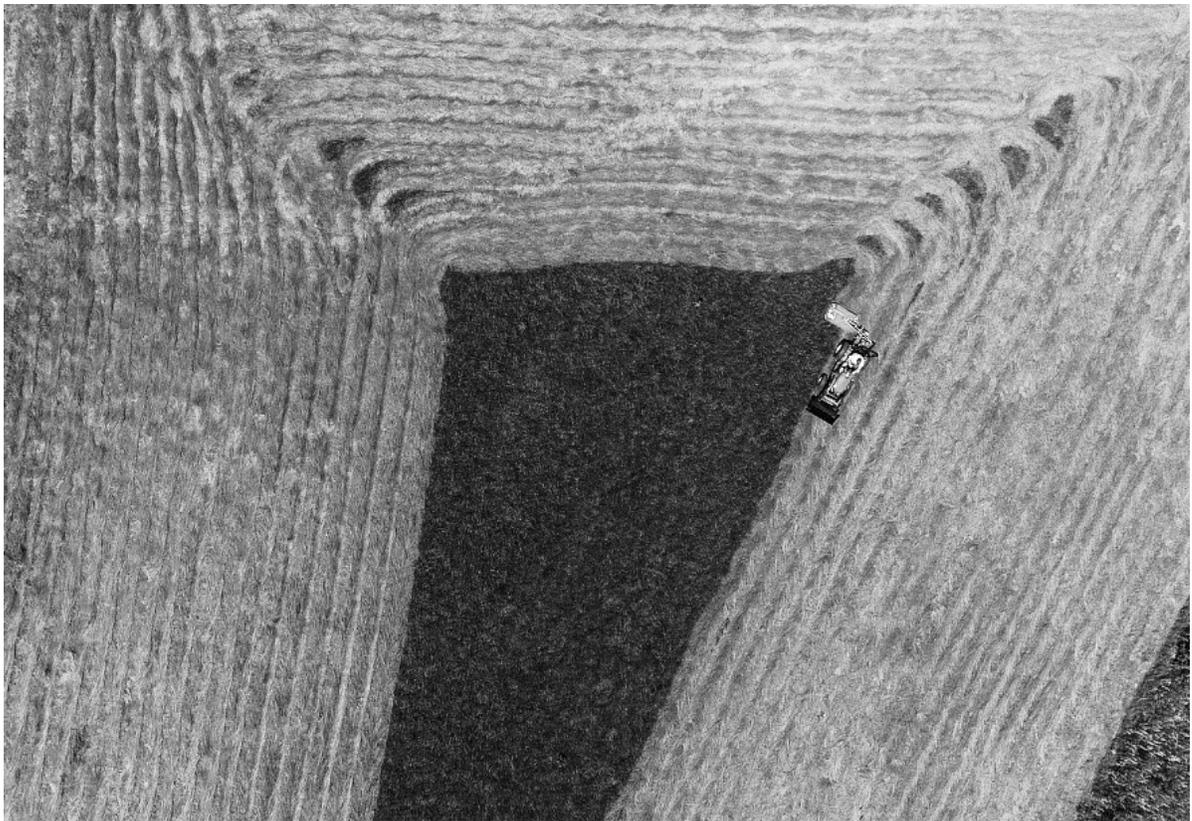

Figure 39 – Clockwise mowing pattern
- The clockwise spiral mowing pattern tends to leave uncut sections at turning points (this is visible in Figure 39 at the corners). These sections can be cut after reaching the center of the spiral. It is not necessary to switch the mower to transport mode while moving to those areas, since drum mowers tend to cut low to the ground. The previously cut hay will just be funneled through the drums as you pass through it.